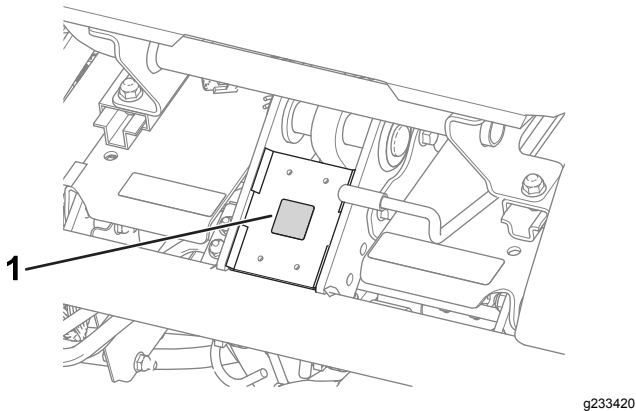

Figure 10
- Apply the CE mark decal to the frame under the front of the seat (Figure 10).